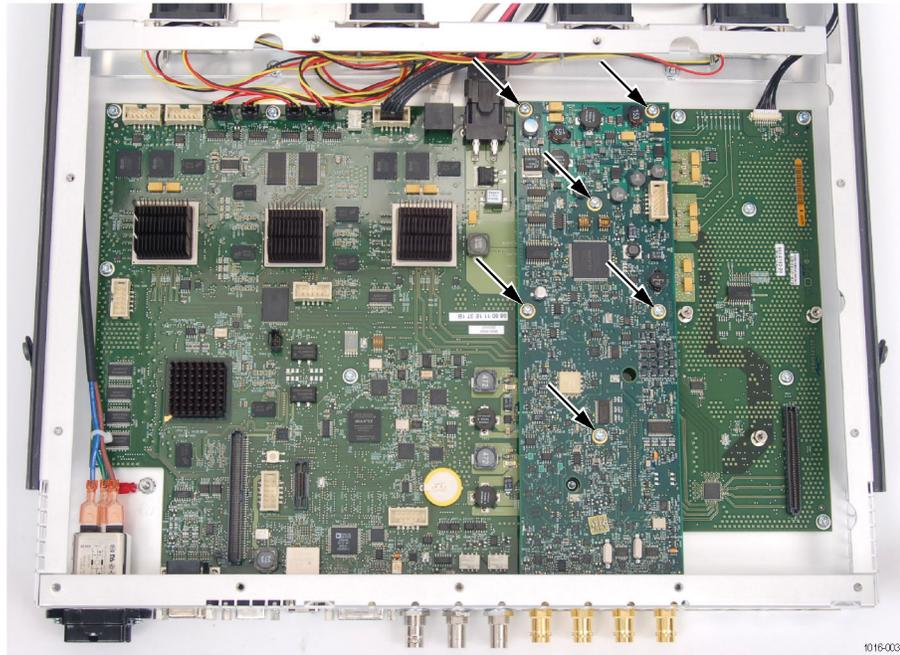
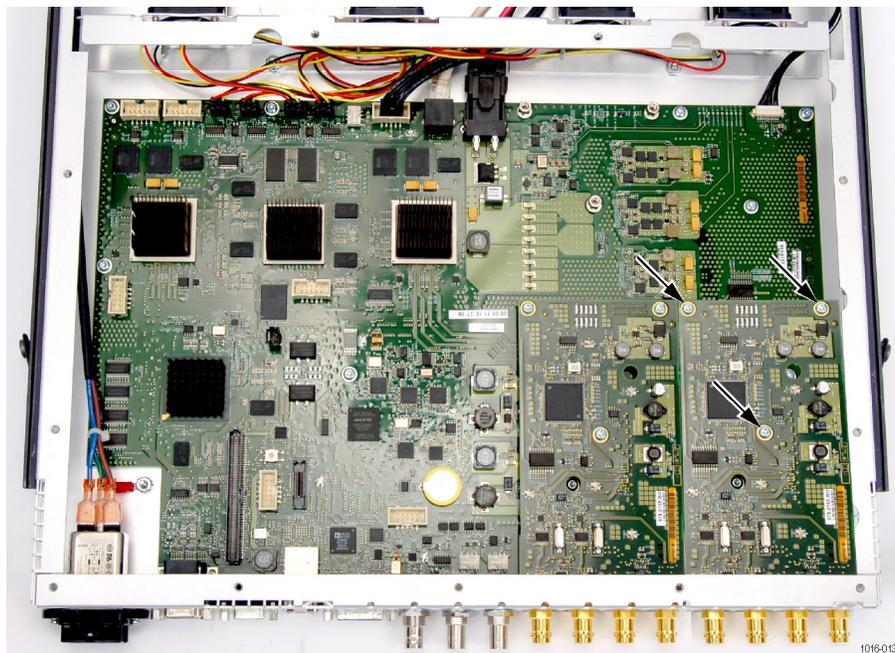

Figure 4: Option EYE or PHY board
Figure 9: SDI board screws
Remove the retaining screws securing the video board to the main board. If removing an SDI video board, there are three screws to remove. (See Figure 9.) If removing an existing EYE or PHY option video board, there are six screws to remove. (See Figure 4.)
- c.** Secure the video board to the six mounting posts with the six T-15 screws from the kit. Tighten firmly, but not excessively. (See Figure 4.)
- c. Secure the SDI board to the three mounting posts with the three T-15 screws from the kit. Tighten firmly, but not excessively. (See Figure 9.)